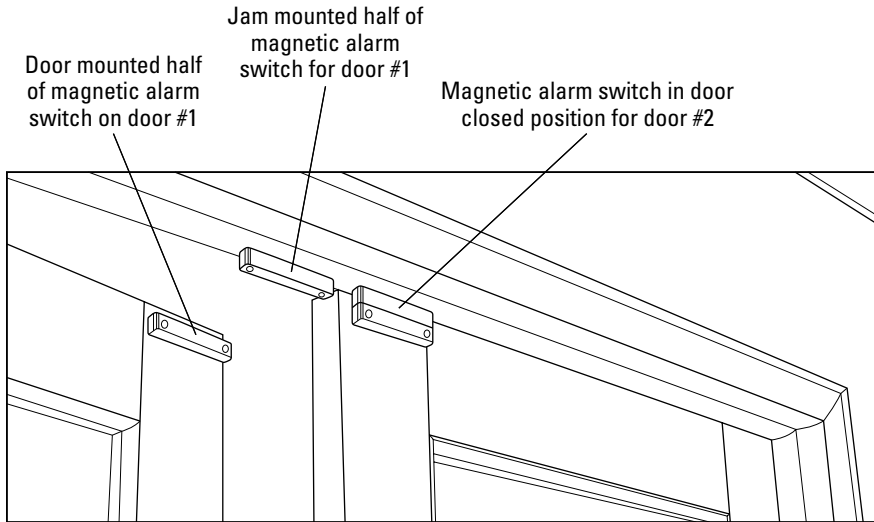

Figure 14-1:
- ✔ **Closed-circuit:** Closed-circuit door and window sensors are two-part magnetic switches. The magnet is mounted securely to the window frame or door, which is the moving item. The on/off switch is mounted to the stationary door or window casing. When you open the door or window, the switch opens (breaks contact) and opens a circuit to the central control. This initiates the alarm process, which may include a local alarm, phone dialing, and other actions. Figure 14-1 shows a typical magnetic window switch. Notice that the actuator magnet is separate from the wired half of the sensor. The *actuator magnet* is mounted to the door, so it makes more sense to make this the moving part. Failed wires on an closed-circuit system make themselves immediately known. A broken wire sends an alarm just as a sensor switching to open would. We believe closed-circuit systems are more reliable because they constantly monitor themselves.